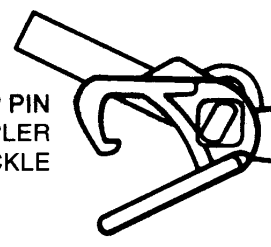

Fig. 10
*If light cars, and cars with steel axles and weights are drawn into the magnet, replace magnetic wheelsets with our non-magnetic wheelsets or modify existing wheelsets the following way: Remove the back wheel pair from one truck on each car (back wheel pair would be the one closest to the center of the car away from the coupler end of the truck) and add one Micro-Trains #1953 truck restraining spring, included in kit. To do this, turn axle cone up, add a dab of saliva to it to hold spring in place, then place spring over the axle cone. Reinstall wheel pair to truck, this spring should create enough drag to keep car from being pulled down by magnet. If not add another spring to the other truck also (**Fig. 10**). Replace the steel weight with white metal or flattened fishing sinker.*